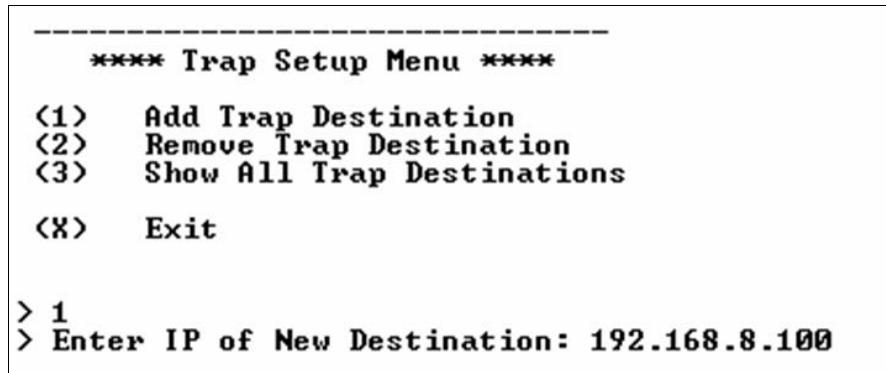

Figure 2-7: Trap Setup Menu
13. A *Trap Setup Menu* will appear as shown in Figure 2-7. To create a trap destination, select option <1> *Add Trap Destination*.